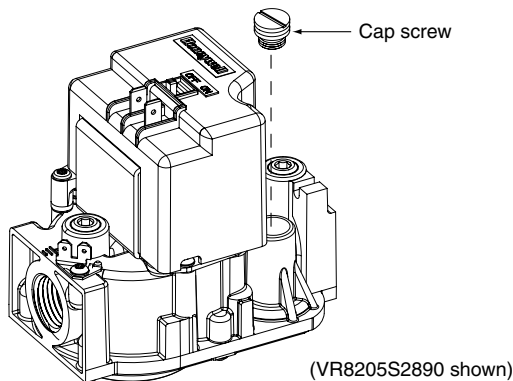
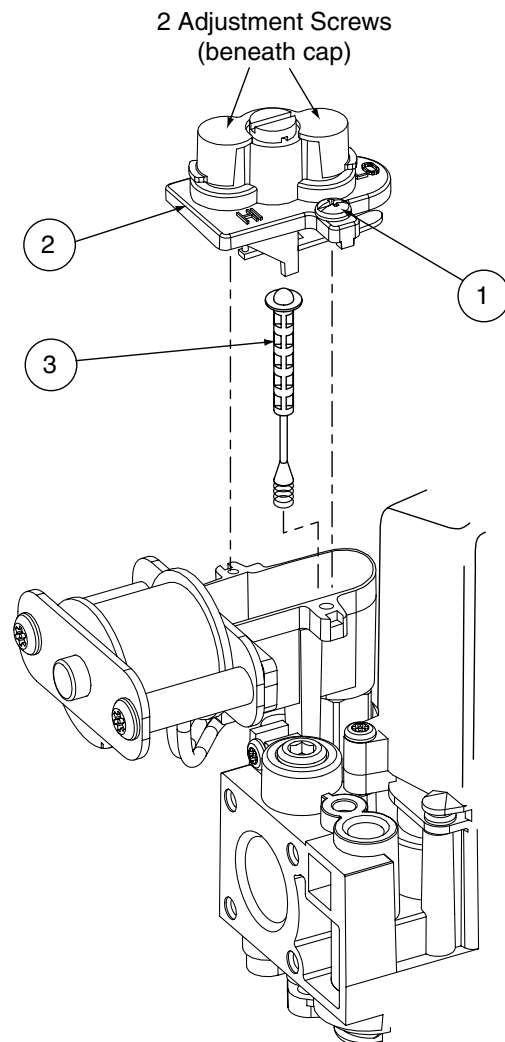
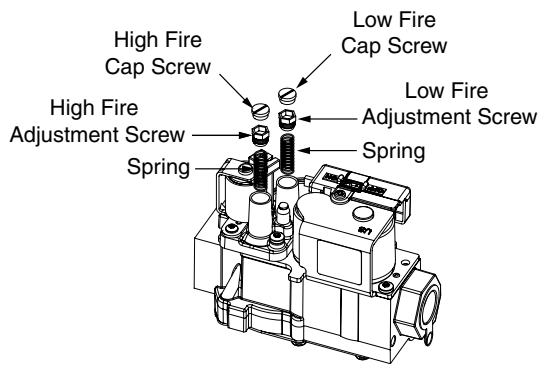

Figure 2. Cap Screw Removal
Figure 4. Spring / Stem Assembly Removal
Figure 5. Pressure Regulator Spring & Adjustment Screw Removal
1. Remove the cap screw from the gas valve as shown in Figure 2.
1. Remove two screws (1) securing the pressure regulator cover assembly (2) to the gas valve. See Figure 4.
2. Remove the pressure regulator cover assembly (2) from the gas valve.
3. Remove and discard the existing stem/spring assembly (3) from the gas valve.
4. Install the replacement stem/spring assembly (3) from the conversion kit.
5. Reinstall the pressure regulator cover assembly (2) onto the gas valve.
6. Install the two screws (1) and tighten.
1. Remove the HIGH fire cap screw. See Figure 5.
1. Single stage gas valve: Remove the cap screw from the top of the gas valve regulator. See Figure 2 (page 4) for VR8205S2890 or VR8215S1289 models.
2-stage gas valve: For VR8205Q2381 models, remove the plastic cap covering the adjustment screws (Figure 4 page 4). For VR9205Q1127 models, remove the cap screw (Figure 5, page 5).
2. Using a screwdriver or Allen wrench (where appropriate), slowly turn the adjustment screw till the appropriate manifold pressure listed in Table 2 is achieved. See Figure 2 for VR8205S2890 or VR8215S1289 models. See Figure 4 for VR8205Q2381 models or Figure 5 for VR9205Q1127 models.